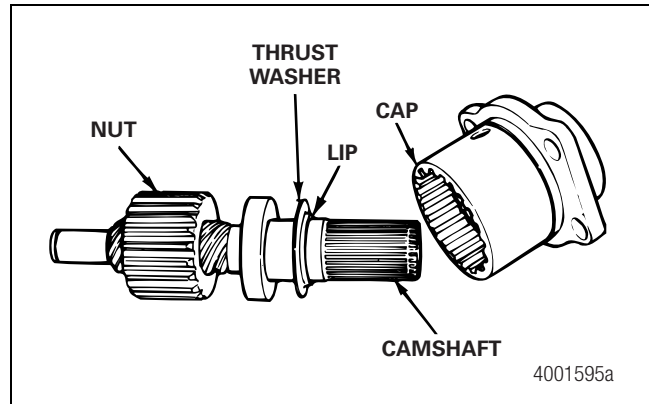

Figure 7.9
4. Install the nut on the threads of the camshaft. Figure 7.9.